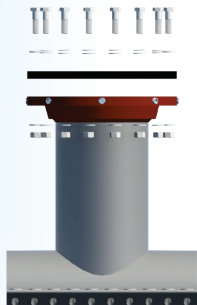

Figure 2
2) Unbolt and remove the top flange of the valve body and store the O-ring, nuts, and bolts in a place they will be free from debris (see Figure 2).